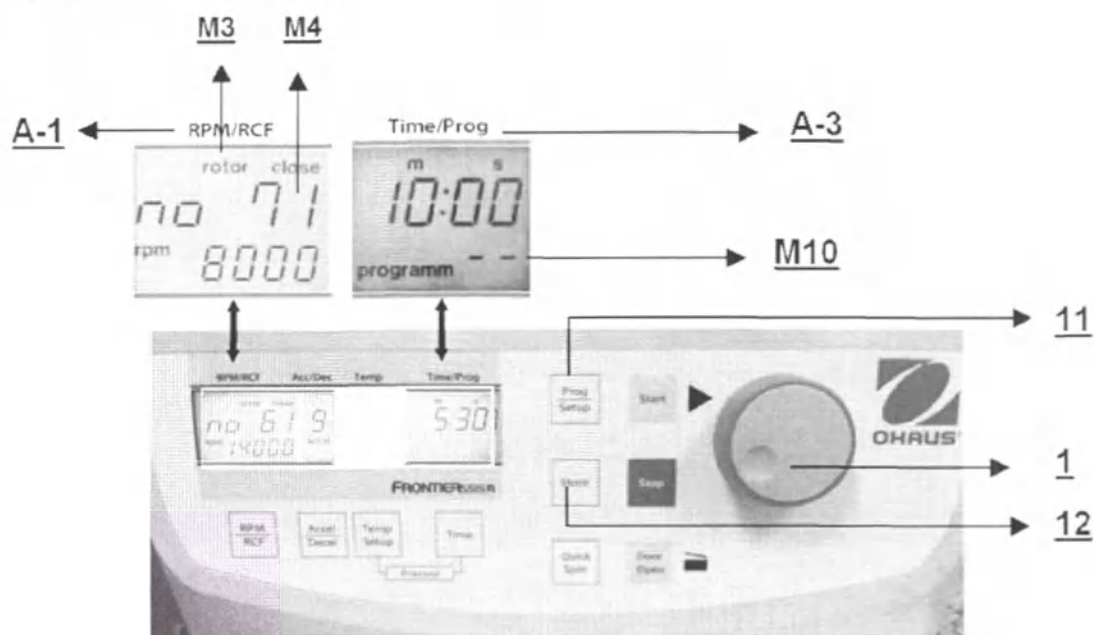

Fig. 25
To recall the saved earlier program from the memory, close the centrifuge lid and press the key **Prog/Setup** (11) (see Fig. 25). The word **programm** (M10) will appear in the field **Time/Prog** (A-3). Rotating the dial (1), select the required program number.
To exit from the program mode, press the key **Prog/Setup** (11) (see Fig. 25). The word **programm** will appear in the field **Time/Prog**.